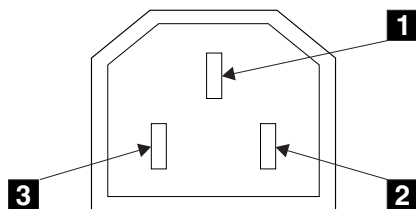

Figure 6. AC Mainline-Power Connector
- A mainline-power connector is on each power-supply assembly. It permits the 2104 disk enclosure to be connected to the ac or dc power supply in the rack. The connector is a 10-amp, three-pin, polarized, IEC 320 input connector. See Figure 6. **1** is the ground connection, **2** is the neutral connection, and **3** is the live connection.